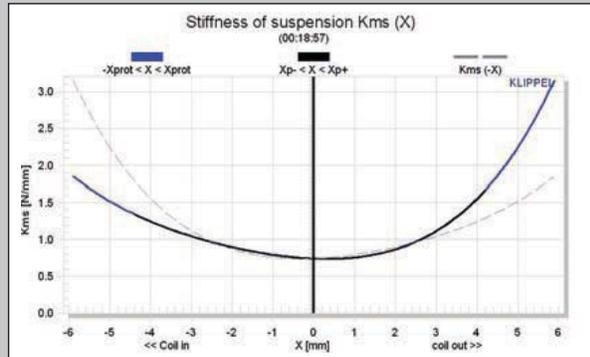

Figure 19: Klippel Analyzer mechanical stiffness of suspension Kms (X) curve for the Fountek FR89EX
Figures 19 and **20** show the Kms(X) and Kms Symmetry Range curves for the Fountek full-range driver. The Kms(X) curve is also somewhat asymmetrical, and has a very minor forward (coil-out) offset of about 0.3 mm at the rest position, decreasing to zero at 2.5 mm, and ending up at 5-mm excursion with about 0.6-mm coil-in offset. Displacement limiting numbers calculated by the Klippel analyzer for the FR89EX were X_{Bl} @ 82% Bl is 4.2 mm and for X_C @ 75% Cms minimum was 2.9 mm, which means that for this Fountek woofer, the compliance is the most limiting factor for prescribed distortion level of 10%.